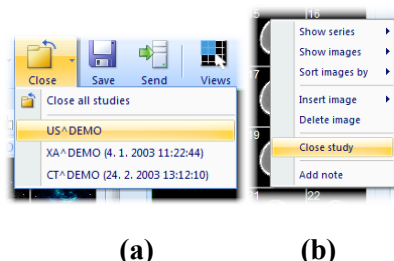

Figure 104 – Closing the selected study
- Expand the **Close** button in the main toolbar and select the item containing the name of the study in the drop-down menu (see Figure 104 a).
- Right-click any image in the thumbnails palette of the study to be closed and then select the **Close study** item in the thumbnail palette context menu (see Figure 104 b).